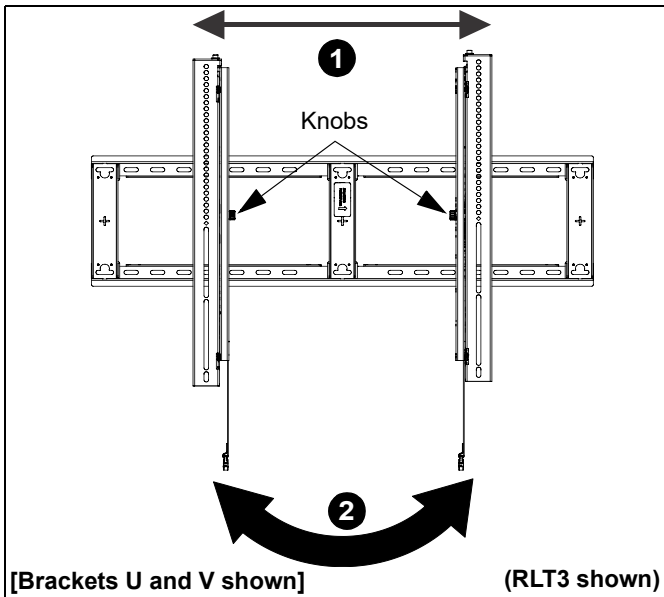

Figure 11
- The wall brackets may be adjusted side to side at the point of attachment. (See Figure 11)
- The location of the left and right interface brackets (S and T or U and V) may be switched, with the knobs on the RMT3/RLT3 interface brackets (U and V) facing the inside of the mount. (See Figure 11)